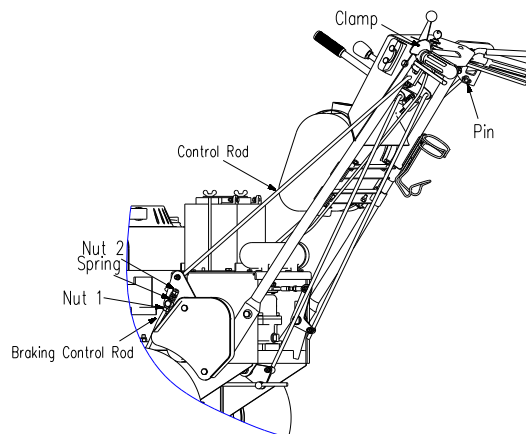

FIG 11
- Loosen the nut on the tension pulley of the transmission drive belt. Remove the tension pulley and the belt you need to replace. Install the new belt, then install the transmission drive pulley in reverse order. Adjust the belt according to the method of belt adjustment, then tighten the nut. (See FIG 11)
(See FIG 11)